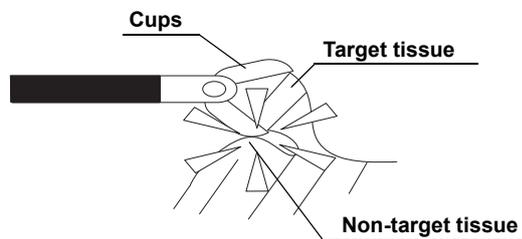

Figure 5
- To avoid burning healthy tissue, do not activate output if the metal portion at the distal end of the insertion portion is in contact with non-target tissue (see Figure 5).